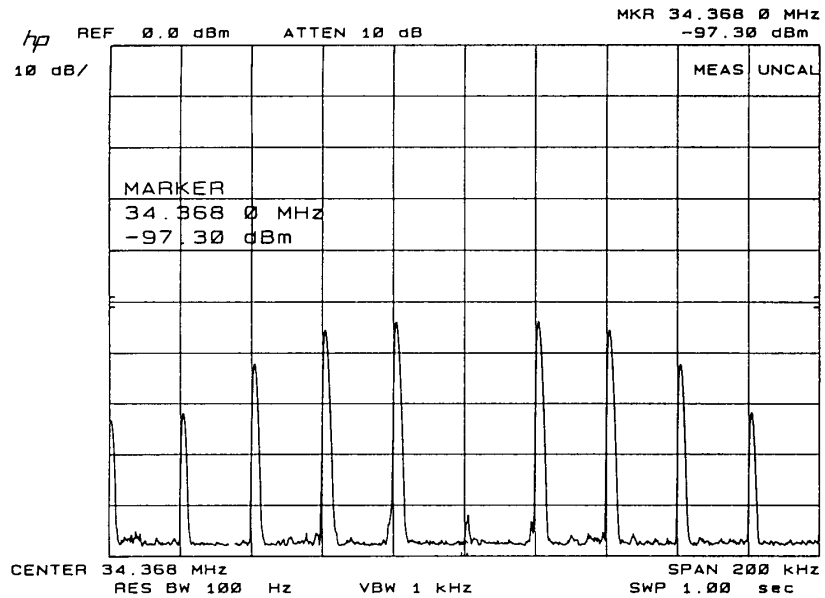

Figure 3-7 Bessel Null Example
- Adjust the OmniBER's jitter amplitude until the first **Bessel Null** is observed on the Spectrum Analyzer i.e first dip in the carrier level (see Figure 3-7).